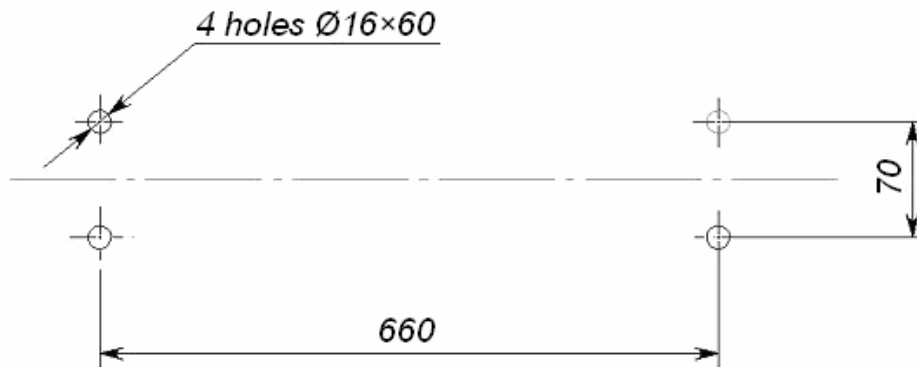

Figure 3 Installation holes for the MB-15R railing
Distance between holes for fixing the main section to the extension section is shown on Fig. 3.
2. Mark out the installation holes on the mounting surface as per Figure 3.